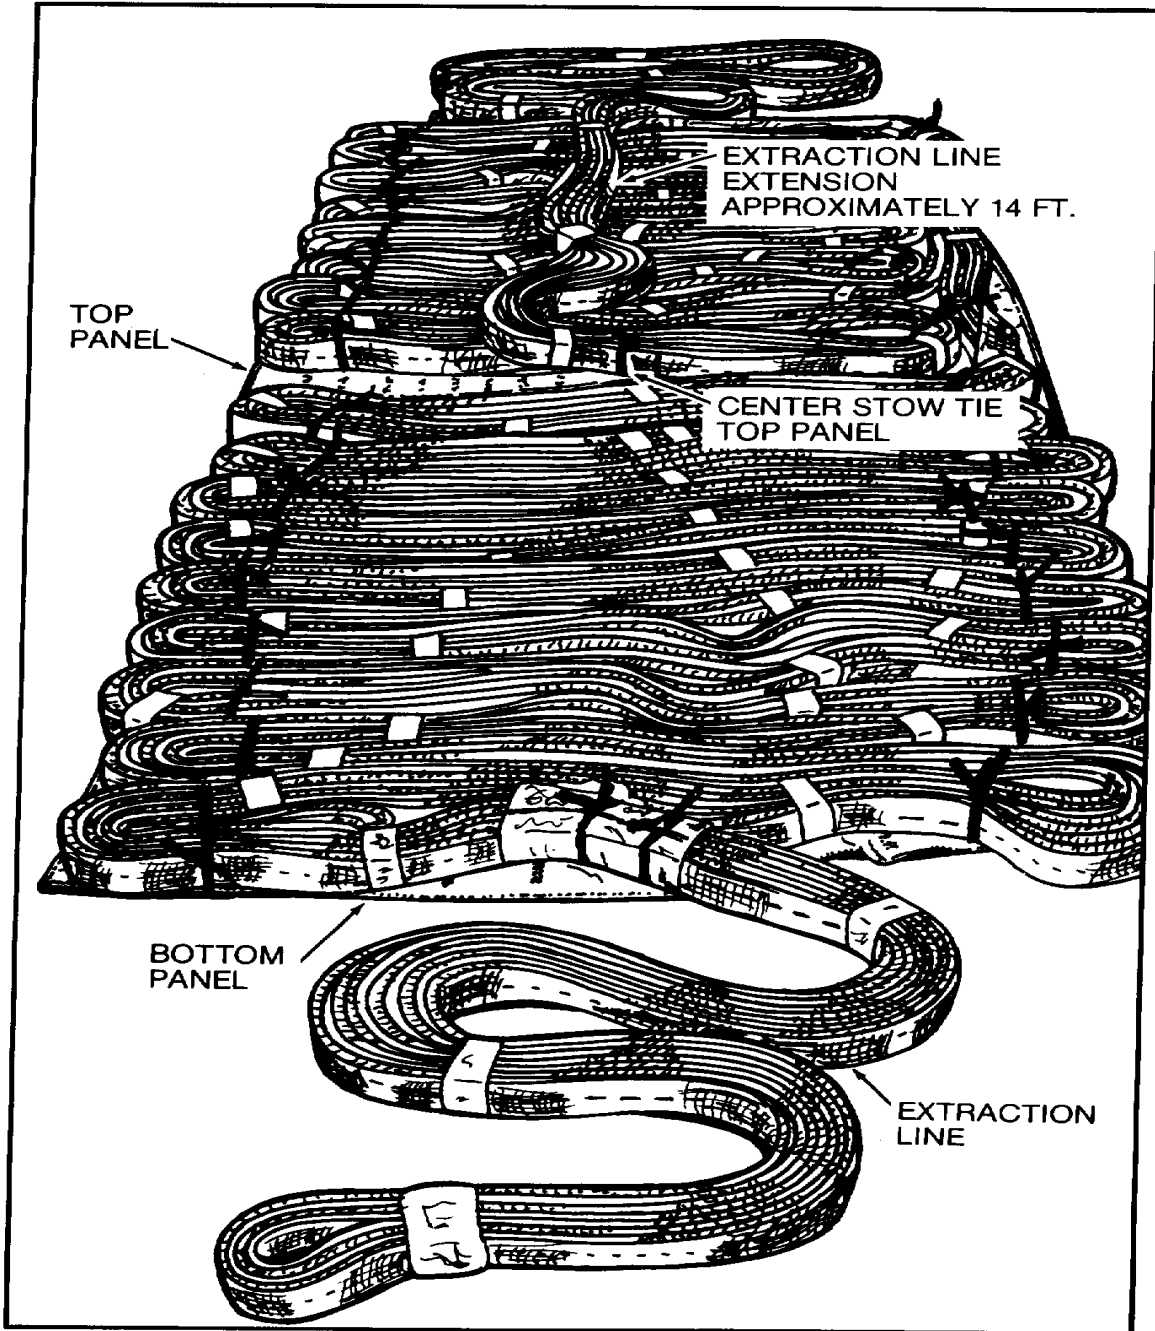

Figure 6. Extraction Line Stowed.
- h. Working from left to right, stow and secure remaining extraction line until approximately 14-feet extends from lower edge of top panel. Make and secure last stow to center stow loop at lower edge of upper panel. Secure last stow with ¼-inch wide type I cotton webbing (figure 6).